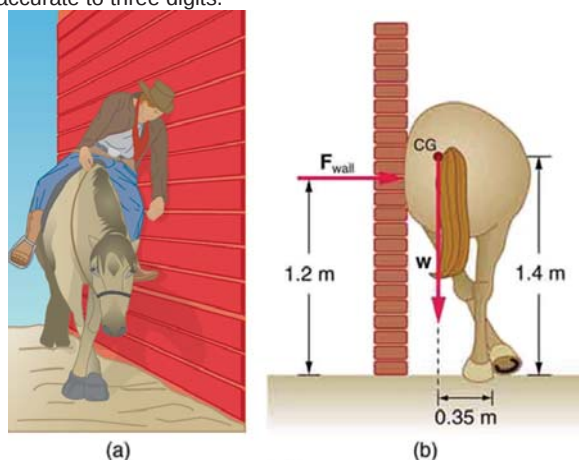

Figure 9.30
- Suppose a horse leans against a wall as in **Figure 9.30**. Calculate the force exerted on the wall assuming that force is horizontal while using the data in the schematic representation of the situation. Note that the force exerted on the wall is equal in magnitude and opposite in direction to the force exerted on the horse, keeping it in equilibrium. The total mass of the horse and rider is 500 kg. Take the data to be accurate to three digits.
- (a) Calculate the magnitude and direction of the force on each foot of the horse in **Figure 9.30** (two are on the ground), assuming the center of mass of the horse is midway between the feet. The total mass of the horse and rider is 500 kg. (b) What is the minimum coefficient of friction between the hooves and ground? Note that the force exerted by the wall is horizontal.